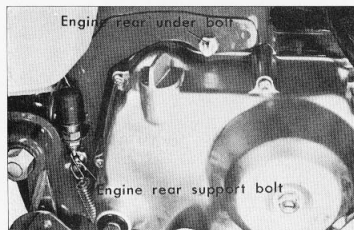

Figure 3-5. Engine mounting bolt
- (12) Disconnect the high tension terminal from the spark plug.
- (13) Remove the high tension cord clip installed on the right crankcase cover.
- (14) Remove the brake pedal spring, stop lamp spring, the two 8mm engine mount bolt nuts and pull out the two engine support bolts; the engine can then be detached from the frame. (Fig. 3-5)